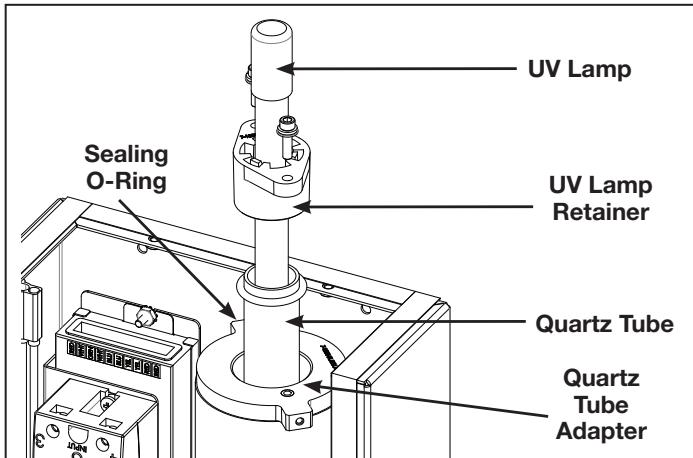

Figure 8. Lamp and Quartz Tube Removal
Follow the instructions below for UV lamp replacement and refer to Figure 8.
4. Grasp the UV lamp wires and gently pull until the top of the UV lamp has pulled past the lamp retainer tabs. See Figure 8.